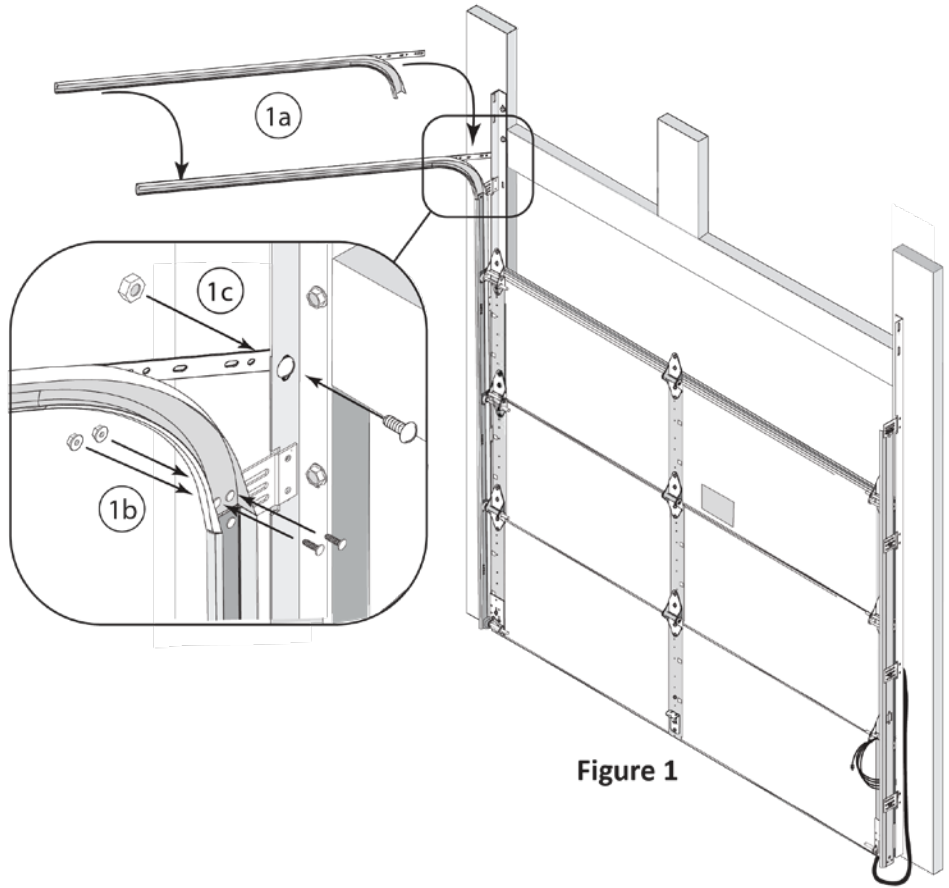

Figure 1
Step 1: Align the two Split Solid shafts (with Key Ways), with both sides of the Torsion Shaft Coupler (Figure 1), and slide them in until they touch.
Step 2: Insert (3) 3/8" -16 X 1-1/2" Hex Head Bolts through both sides of the Coupler, and loosely fasten with (3) 3/8"-16 Hex Head nuts.
Step 3: Slide the (2) 1/4" x 1/4" x 3" Bent Keys, into the Key Way of both shafts and into the Key Way of the couplers.